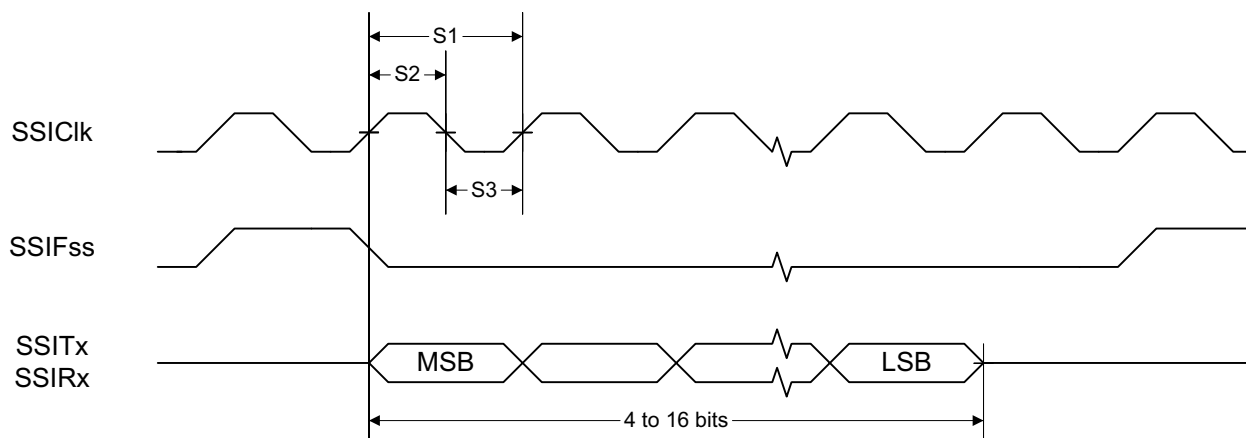
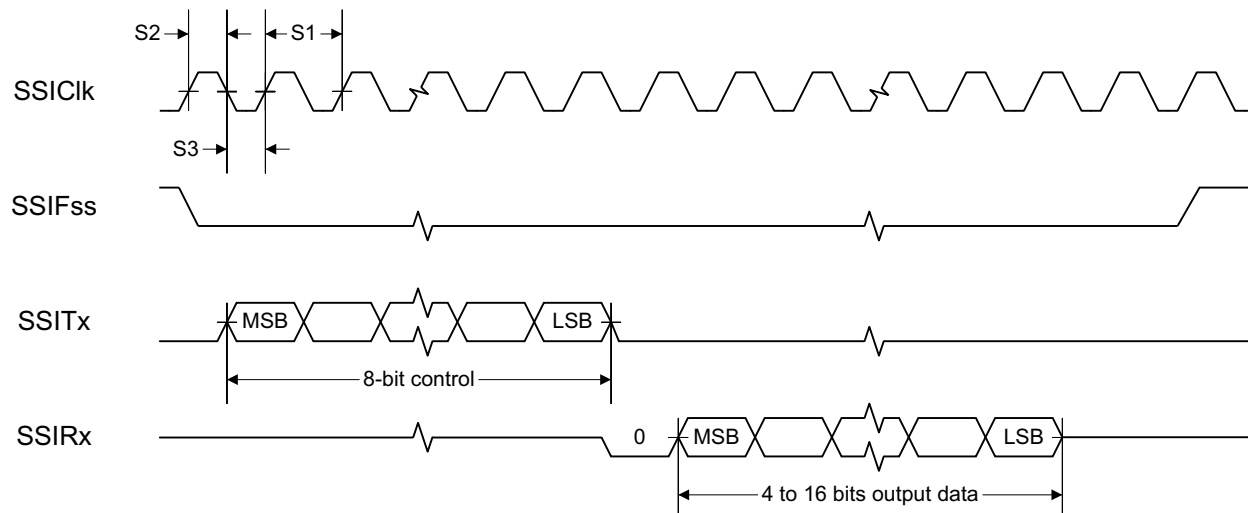
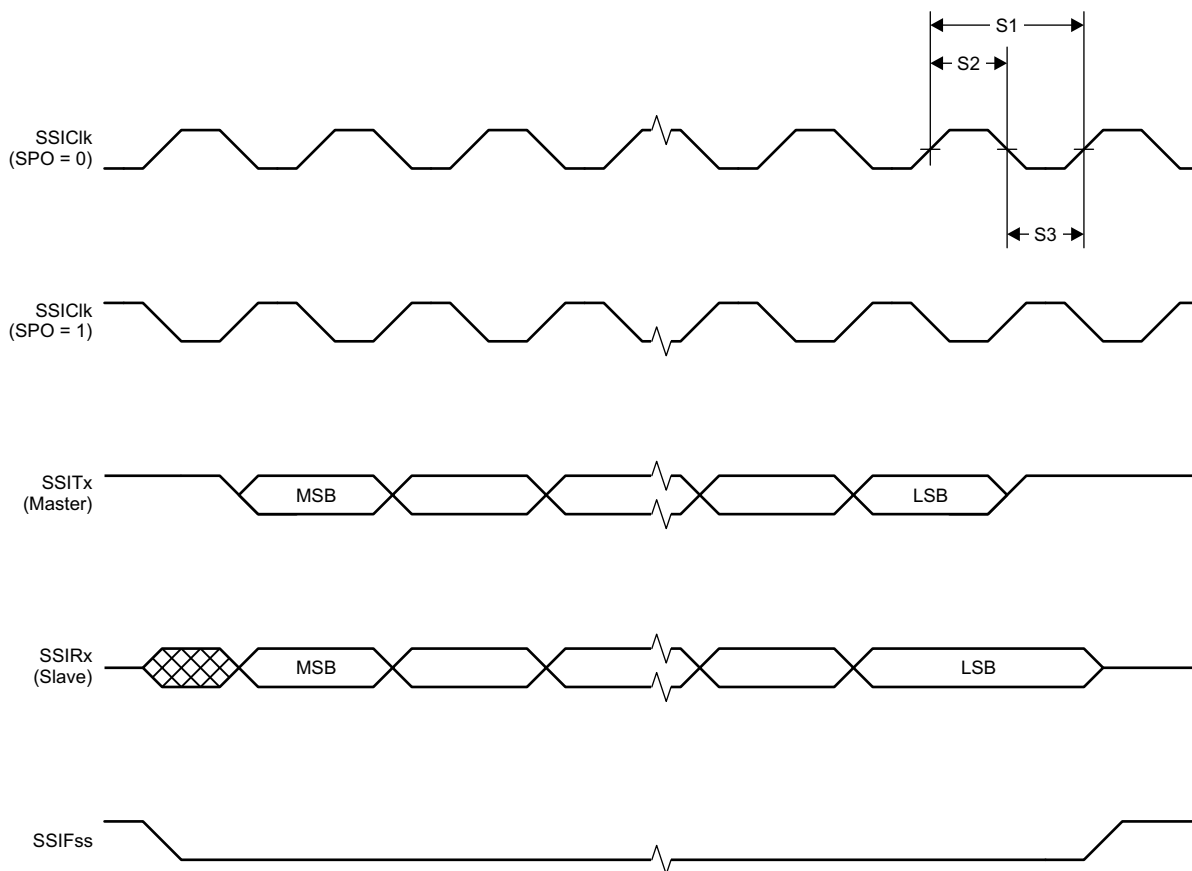

Figure 5-1. SSI Timing for TI Frame Format (FRF = 01), Single Transfer Timing Measurement
Figure 5-2. SSI Timing for MICROWIRE Frame Format (FRF = 10), Single Transfer
Figure 5-3. SSI Timing for SPI Frame Format (FRF = 00), With SPH = 1
- (2) Applications using RCOSC_LF as sleep timer must also consider the drift in frequency caused by a change in temperature (see Section 5.13).
- (3) T_A = -40°C to 85°C, V_{DD5} = 1.7 V to 3.8 V, unless otherwise noted.
- (4) T_c = 25°C, V_{DD5} = 3.0 V, unless otherwise noted. Device operating as SLAVE. For SSI MASTER operation, see Section 5.23.
- (5) Refer to SSI timing diagrams Figure 5-1, Figure 5-2, and Figure 5-3.
- (1) Device operating as MASTER. For SSI SLAVE operation, see Section 5.22.
- (2) Refer to SSI timing diagrams Figure 5-1, Figure 5-2, and Figure 5-3.